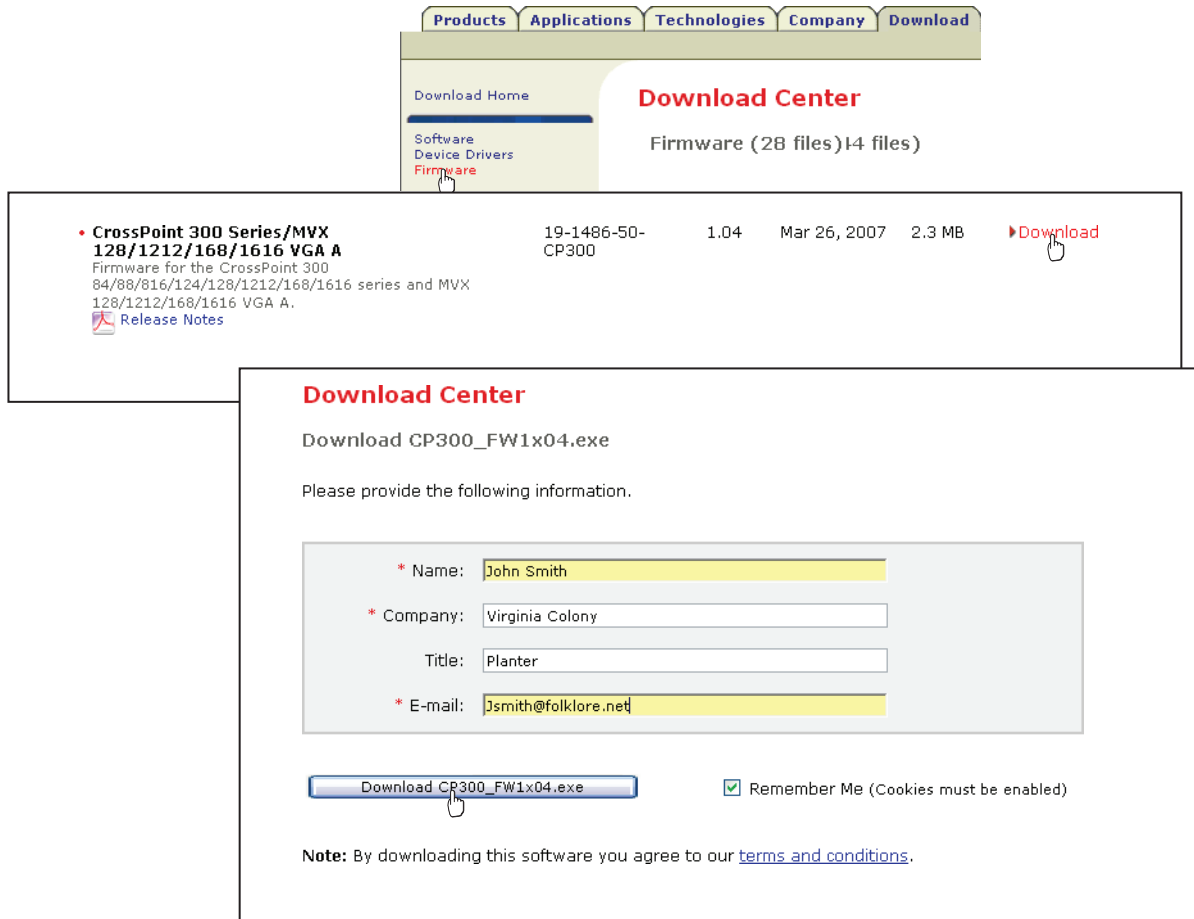

Figure 5-6 — Location of firmware upgrade files
1. Visit the Extron Web site, www.extron.com, click the **Download Center** tab, and then click the **Firmware** link (figure 5-6).